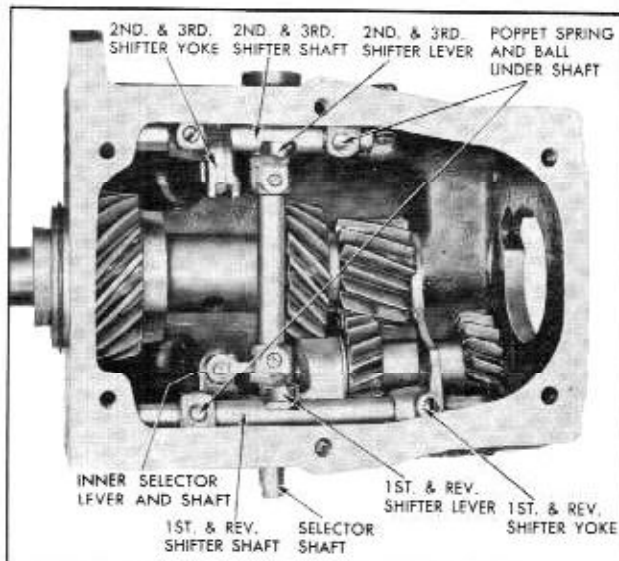

Fig. 11-13 Shift Mechanism
5. Remove the set screws from two shifter yokes. (Fig. 11-13)
13. Remove the set screws from the inner shift levers. (Fig. 11-13)